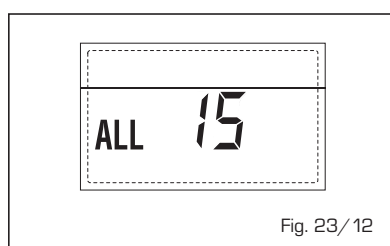

Fig. 23/12
– **ANOMALÍA Sonda EXTERNA “ PARPADEANT” (fig. 23/13)**